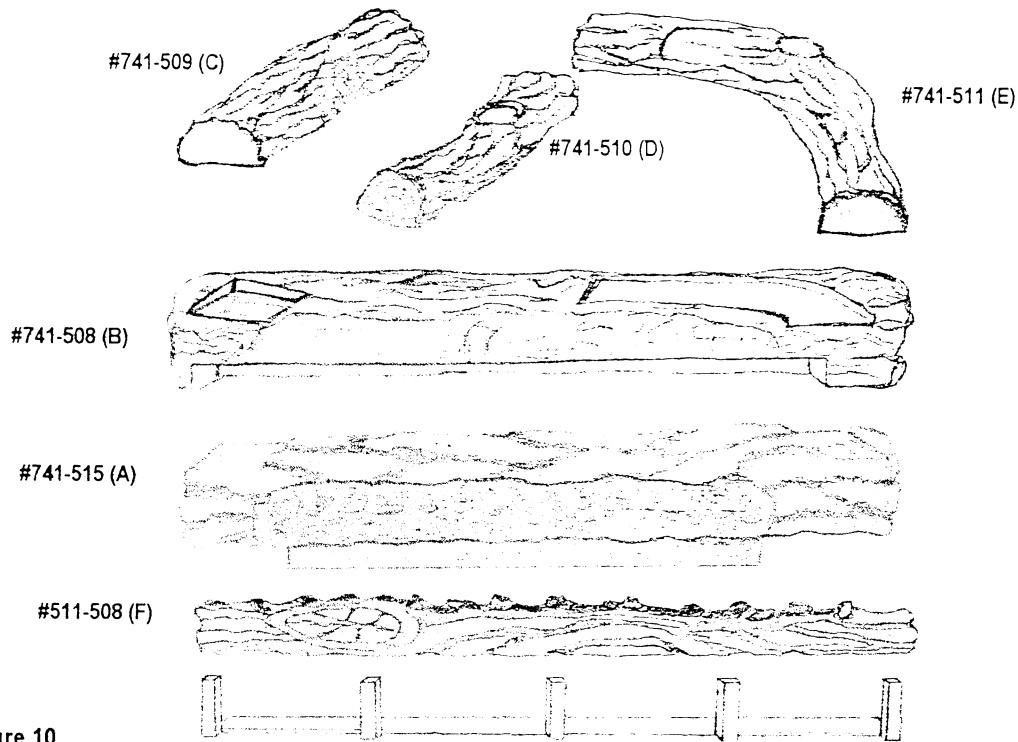

Figure 10
4. Reconnect vent switch wiring by sliding the male connector (C) into the female connector (D) on the vent switch assembly.
6. Slide spade connector (E) (on vent switch assembly) onto center terminal (B) on regulator valve.
H) LOG INSTALLATION. See Figure 10.